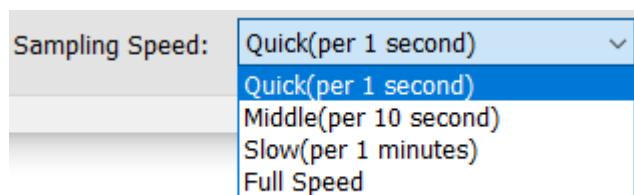

**Figure 4-11 Power Monitor Section**
- 12V/Core Power monitor:** It displays the real-time 12V/Core Power (0.9V) voltage and consumption current on the Apollo S10 board, as shown in **Figure 4-11**.